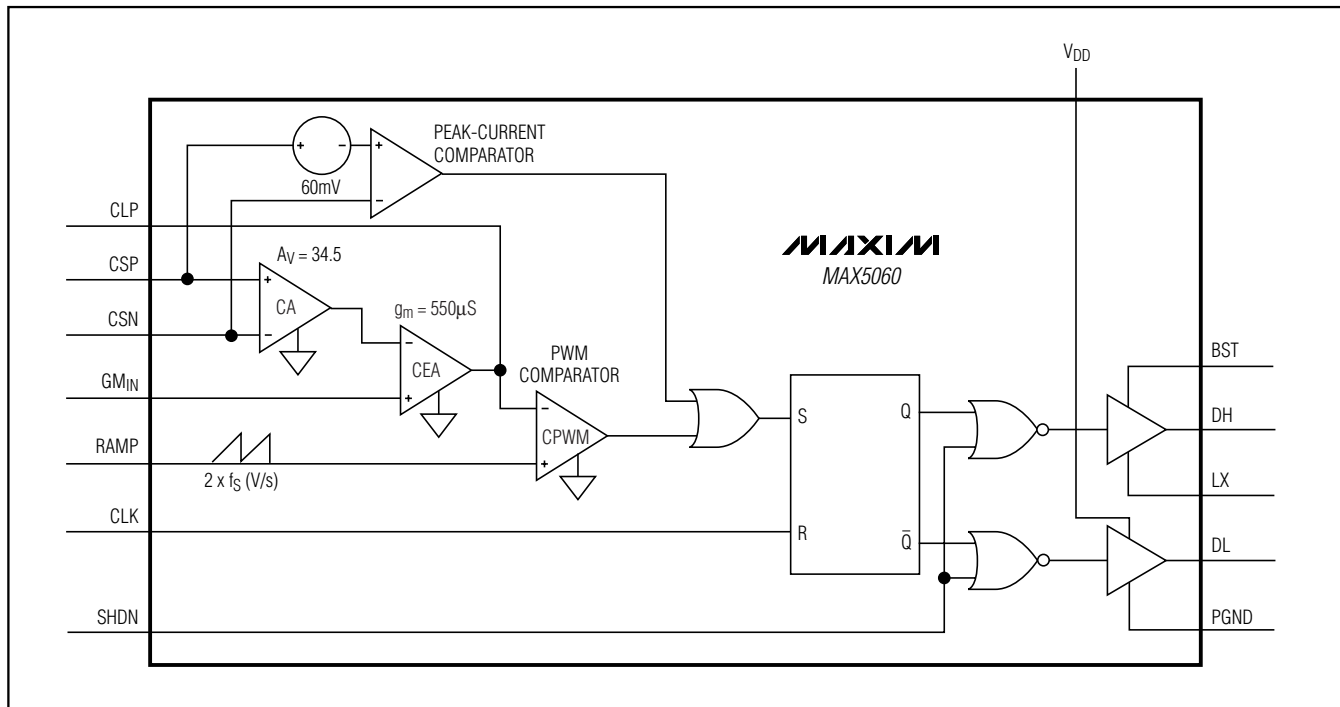

Figure 6. Phase Circuit
The current loop consists of a current-sense resistor (RSENSE), a current-sense amplifier (CA), a current-error amplifier (CEA), an oscillator providing the carrier ramp, and a PWM comparator (CPWM) (Figure 6). The precision CA amplifies the sense voltage across RS by a factor of 34.5. The inverting input to the CEA senses the CA output. The CEA output is the difference between the voltage-error-amplifier output (EAOUT) and the amplified voltage from the CA. The RC compensation networks connected to CLP provide external frequency compensation for the CEA. The start of every